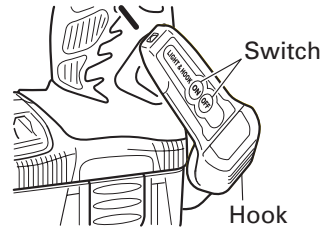

Fig. 11
- (2) The direction of the light can be adjusted within the range of hook positions 1 - 5. (Fig. 11)